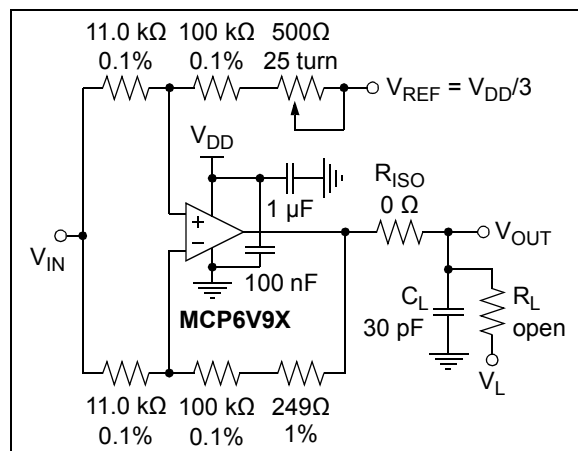

FIGURE 1-6: Test Circuit for Dynamic Input Behavior.
- Note 1:** These parameters were characterized using the circuit in Figure 1-6. In Figures 2-36 and 2-37, there is an IMD tone at DC, a residual tone at 1 kHz and other IMD tones and clock tones. IMD is Referred to Input (RTI).
The circuit in Figure 1-6 tests the input's dynamic behavior (i.e., IMD, t_{STR} , t_{STL} and t_{ODR}). The potentiometer balances the resistor network (V_{OUT} should equal V_{REF} at DC). The op amp's Common-mode input voltage is $V_{CM} = V_{IN}/2$. The error at the input (V_{ERR}) appears at V_{OUT} with a noise gain of 10 V/V.